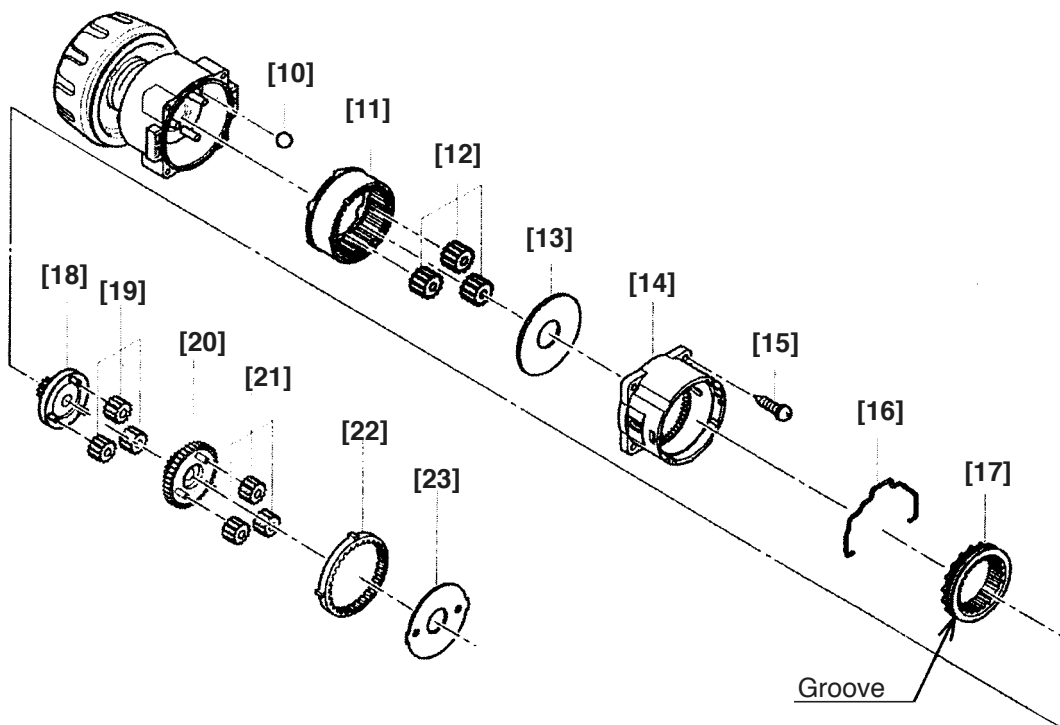

Fig. 9
(b) Install the parts series from the six Steel Balls D5 [10] to Washer (B) [23] into the assembly reassembled in step (2). (See Fig. 9.)